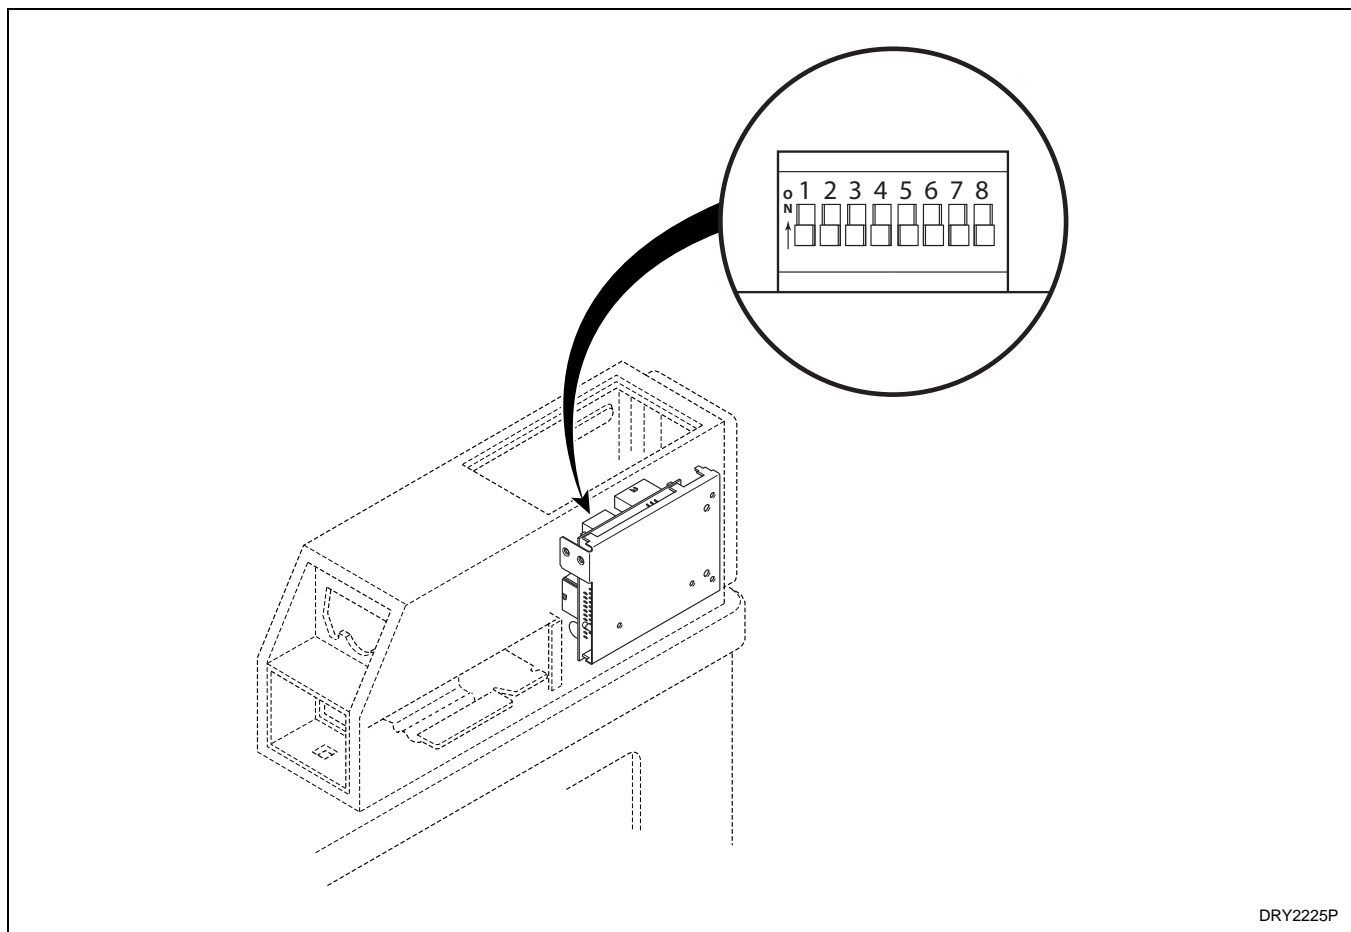

Figure 29
2. Record the machine control dipswitch settings. Then set them all to the off position. Refer to *Figure 29*.